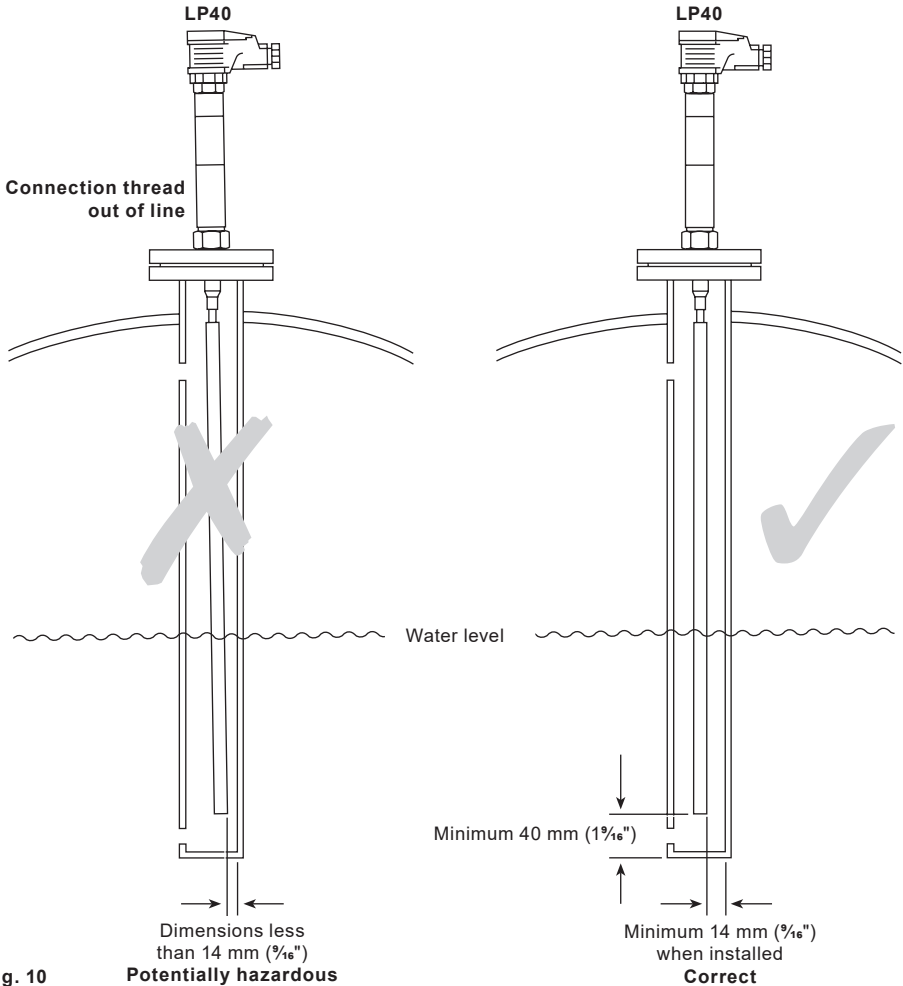

Fig. 10
When correctly carried out, the test will ensure that the final probe tip position is at least 14 mm ( $\frac{9}{16}$ " ) from the protection tube. See Figure 10.
- Protection tube not of large enough bore and/or not deep enough (the tube should be at least 40 mm ( $1\frac{5}{8}$ ") deeper internally than the end of the probe, see Figure 10).